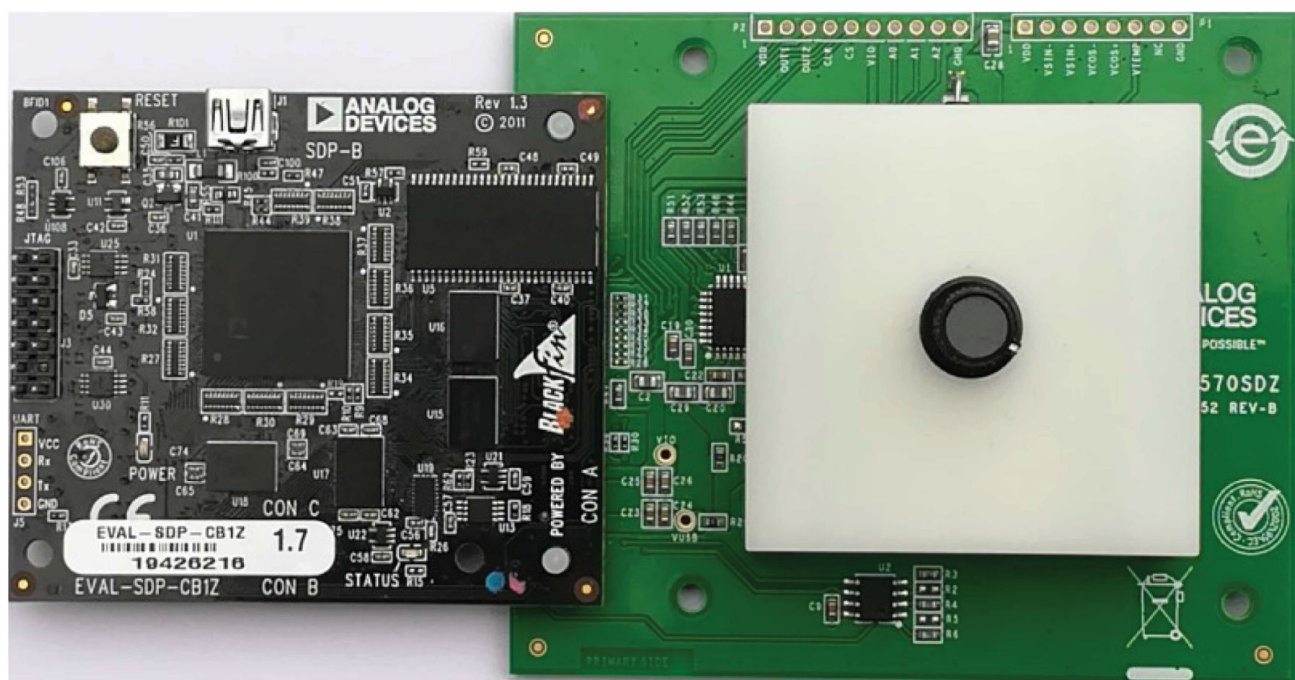

Figure 2. Hardware Configuration Showing the Demonstration Magnet Assembly, EVAL-ADA4570SDZ, and the SDP-B
1. Connect the SDP board to the EVAL-ADA4570SDZ (see Figure 2).